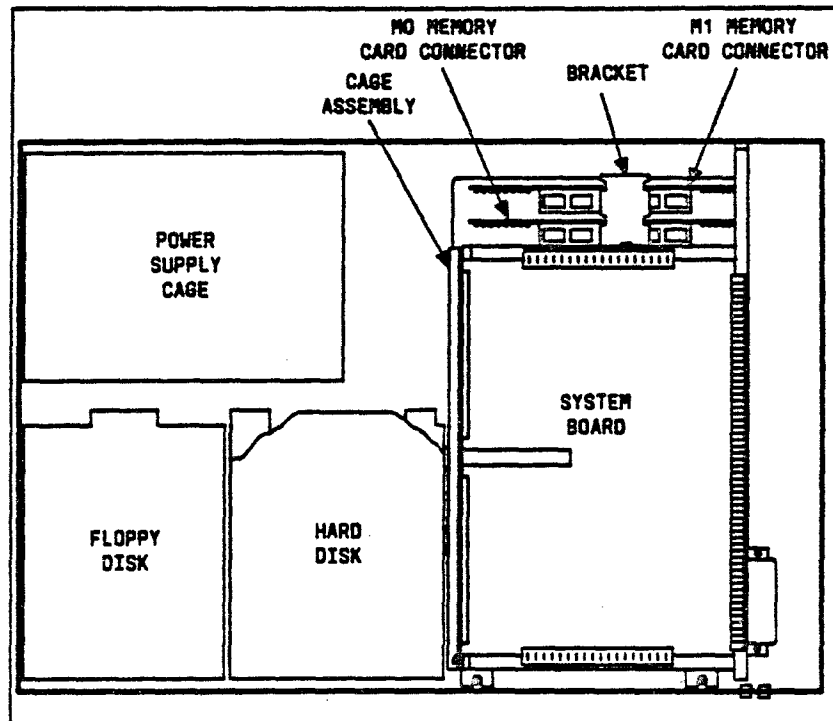

Figure 4-2. Internal View of 3B2/300 Computer
4. Compare Figure 4-2 to the inside of the 3B2/300 Computer, and familiarize yourself with the location and placement of the major components.
1. Loosen the screw on the bracket holding the memory card(s) in place. (See Figure 4-2.)